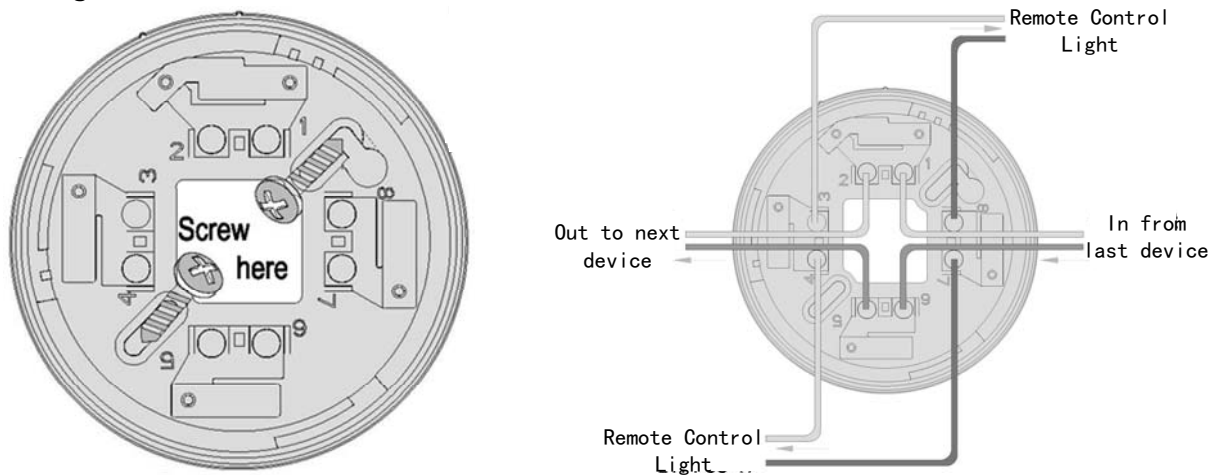

Fig.1 TX7980 base structure and the terminals connection diagram
1. Install the TX7980-type base in the position where the Addressable Flashing Beacon Base will be installed. Following the arrow mark for the correct position. Do not over-tighten the screws otherwise the base will twist. Use M4 standard screws. Terminals 1 and 6 are the bus signal inputs for connection to the last device. Terminals 2 and 5 are the bus signal outputs for connection to the next device. Terminals 3&8 or 4&7 are used to connect remote indicators, Where terminals 3&4 are positive and terminals 7&8 are negative. TX7980-type base structure and the terminals connection diagram as shown in Figure 1.